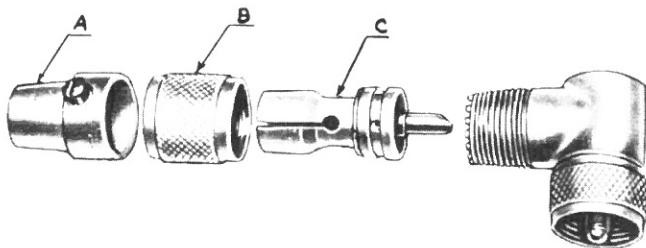

Figure 2-17—Plug Parts and Adapter
(3) Referring to Figure 2-17, it will be seen that the plug parts have been designated as follows: Plug Shell "A," Locking Ring "B," Plug Body "C." Care should be taken to see that the shell "A" and locking ring "B" are fitted over the cable in the proper order and with each in the proper direction. Begin by putting the shell on, narrow end first. Examination of the locking ring will reveal that one end has an internal shoulder. This end goes on first and therefore comes up against the wide end of the plug shell on the cable. These parts must be on the cable before it is inserted into the plug body. Corrugations of threaded form in the plug body make it possible now to screw this part onto the cable.
(4) The shield of the cable should now be soldered to the plug body, designated as "C" in Figure 2-17. The solder should be applied through the four holes in the waist of the plug body, taking care that no solder creeps up on either shoulder of the plug body. This is shown in Figure 2-18.